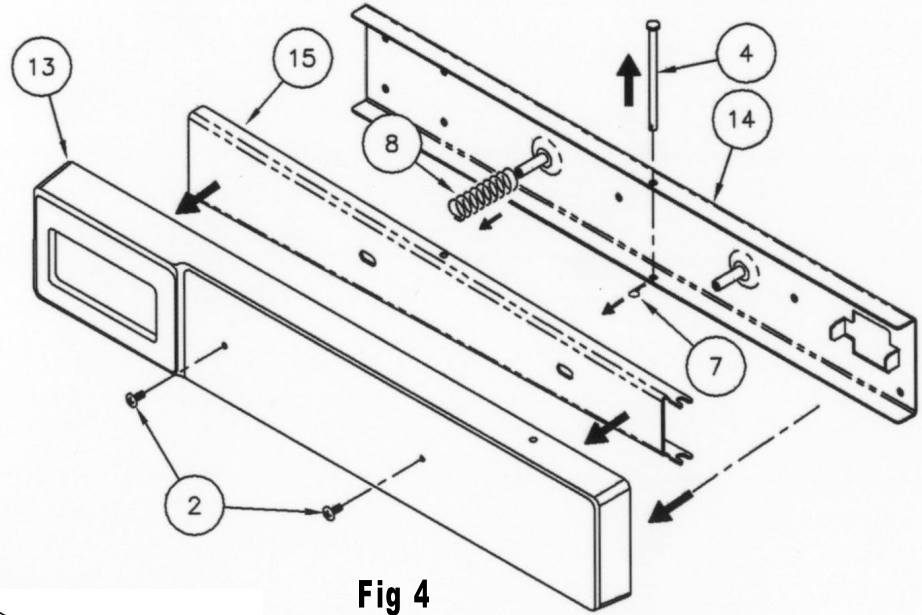

Fig 4
Fig 4. Remove all parts from the box and unwrap the main unit from its protective wrapping. Remove the cover (13) and set it aside. Now remove the hairpin clip (7) from the pivot pin (4). Be careful not to lose this clip. Pull the pivot pin (4). Squeezing the unit at the pivot point which overcomes the force of the spring (8) makes removal of the pivot pin easier.